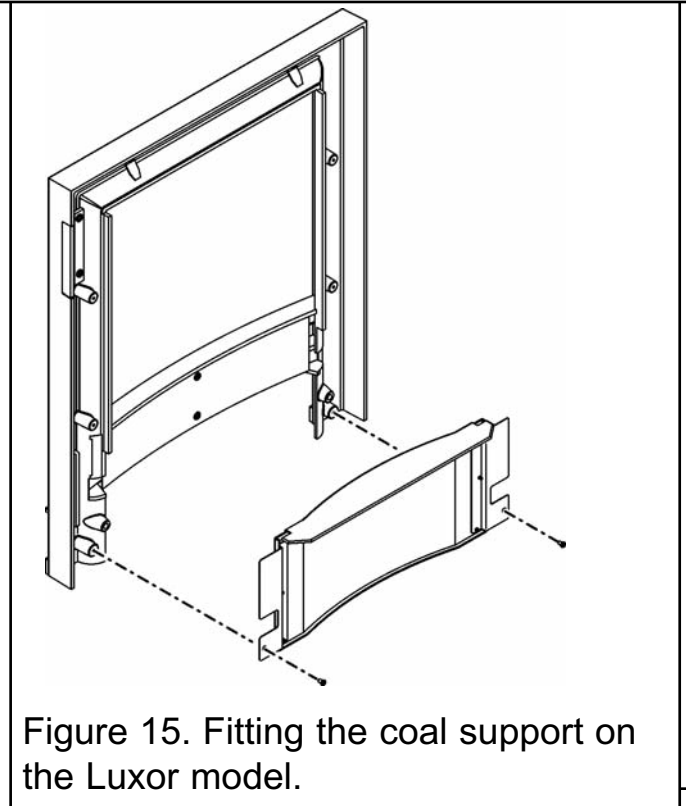

Figure 15. Fitting the coal support on the Luxor model.
2. The heater is supplied with a coal support assembly (See figure 1). Locate this to the rear of the fascia as in figure 15. Secure in place using two M5 x 8 screws supplied.